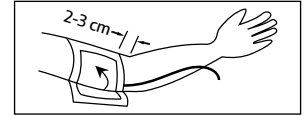

Figure 1
- Push the cuff onto the arm until the lower edge of the cuff is 2-3 cm above the crook of the arm (Figure 1).